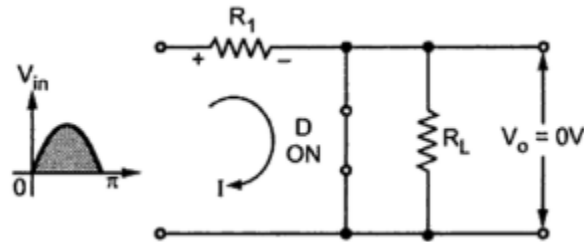

Fig. 2.19 Operation during positive half cycle
- As R_L is in parallel with diode no current flows through it and output voltage $V_o = 0V$ as shown in the Fig. 2.19.